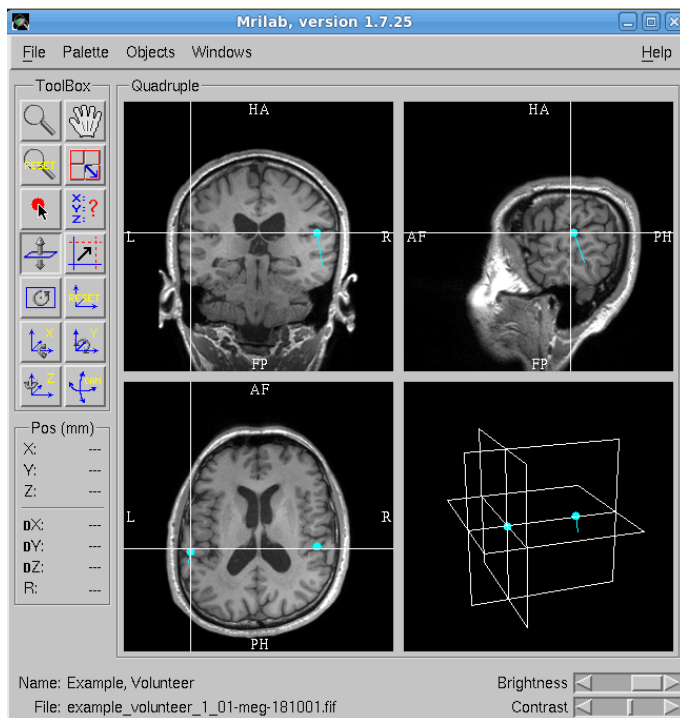

Figure 37: Importing the two-dipole fit locations to *MriLab*.
- Select the dipoles from the list in the **Dipole fitting** window, **right-click -> MRI** (Figure 37).